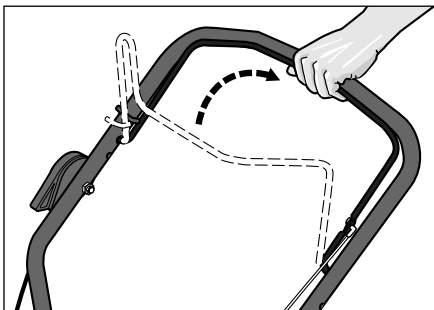

Figure 4-4: Control bail engaged.
2. When the engine is running, pull the control bail against the handlebar (Figure 4-4) to start rotation of the trimmer head.
2. Slowly pull the Trimmer Head Control Bail (Figure 4-4) against the handlebars to activate the trimmer head. Use the Engine Throttle Lever to adjust the turning speed of the trimmer head.